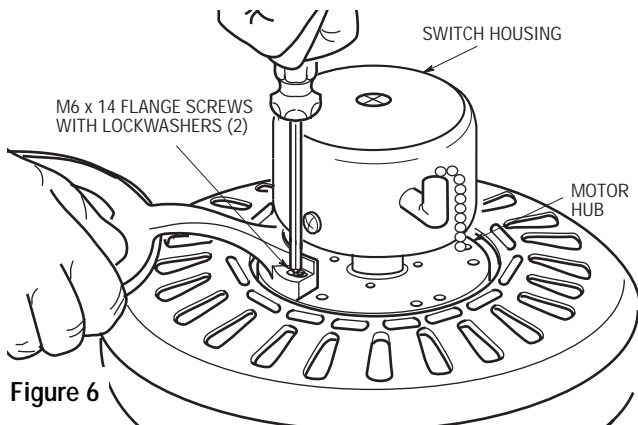

Figure 6
- 8. Attach blade assembly to motor using two M6 x 14 flange screws with lockwasher preassembled in flange. Make sure the screws are tightened securely (Figure 6). Repeat this procedure for other four blade assemblies.